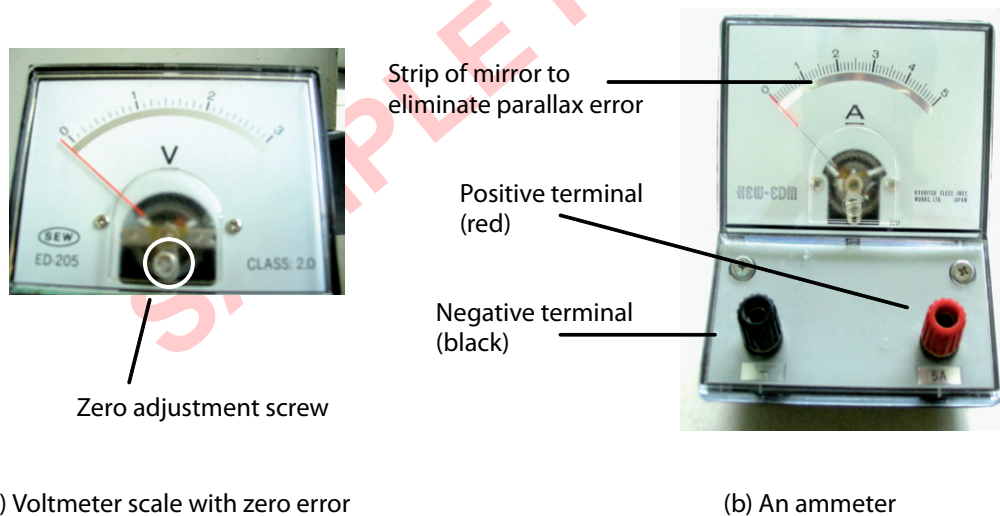

Figure 622 An analogue voltmeter and ammeter
- Check that the ammeter or voltmeter reads zero before connecting it to the circuit. If it does not, with your teacher's permission, you can set the needle pointer to zero by adjusting the screw at the base of the pointer (see Figure 622).